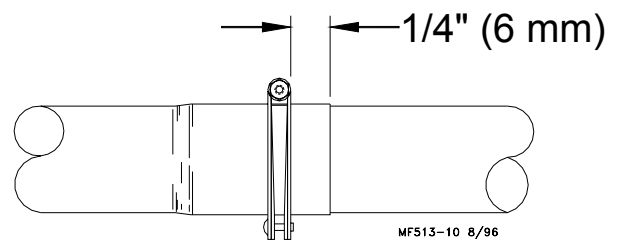

Figure 25. Tube Joint Connection
Make sure that each tube fits as far as possible into the belled end of the next tube. The outlet holes **must point down**. Install tube clamps as shown in **Figure 25**.
- make sure clamp is located, as shown in **Figure 25**.